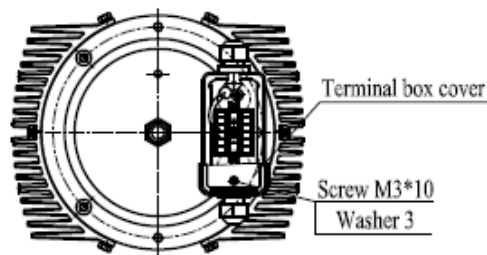

Figure 19 Emergency Brake Terminal Box
1. Remove the two (2) Screws M3X10 and then remove the terminal box cover. See Figure 19 on page 20.